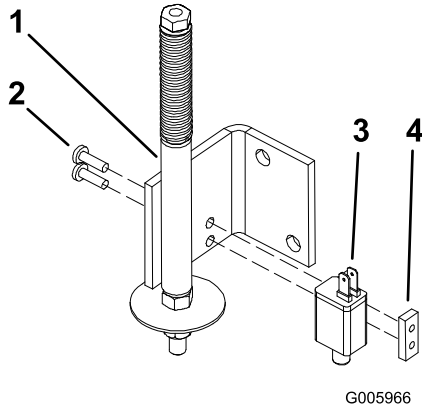

Figure 3
- Remove the switch from Z100/400 actuator and switch assembly. Remove the two screws and tapped plate to separate the switch from the assembly (Figure 3).